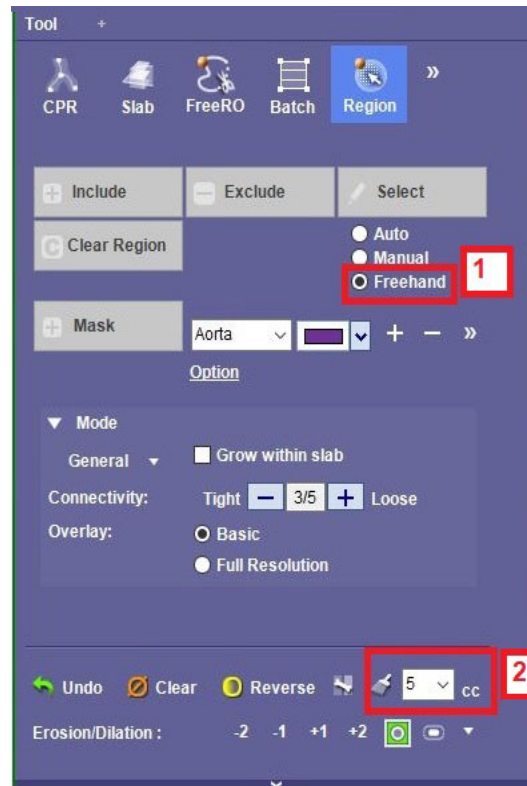

Figure 3-34 Freehand Option and Paint Brush Size
You can use the Freehand tool to grow (“paint”) a region (Figure 3-34):
2. Select the radio button next to **Freehand** (Figure 3-34, # 1). This allows you to “paint” a region larger.
4. If you need to, you can change the size of the paint brush tool (Figure 3-34, # 2).